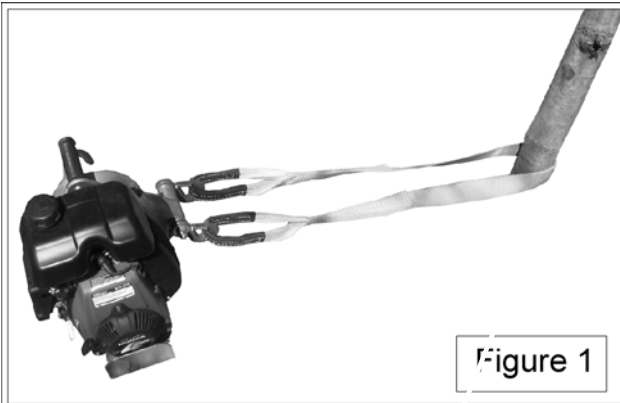

Figure 1
If you usually pull with a choker chain, use a grab hook (figure 1) or grab hook with latch (figure 2).
Go around the anchor point with the sling. Insert each end of the sling in one of the safety hooks located on the winch (figure 1).
CAUTION AVOID INSTALLING THE SLING ON SHARP EDGES THAT MIGHT DAMAGE IT. WHETHER YOU ARE USING A POST, A TREE OR A STUMP, ALWAYS INSTALL THE SLING NEAR THE ANCHOR'S BASE (FIGURE 1).
- 1) Push the safety hooks in the rectangular openings of the hitch plate (figure 1 next page). The rubber plate must be under the winch;
- 1) Slide the square tubing into the vehicle's receiver and secure it with both the hitch pin and the "R" pin (figure 1, no 1);
- 1) Place the tree/pole mount at the base of the tree or pole. Insert the sling's hook into the anchor point on the left (figure 1, no 1); then feed the sling's end through the ratchet system (figure 1, no 2);